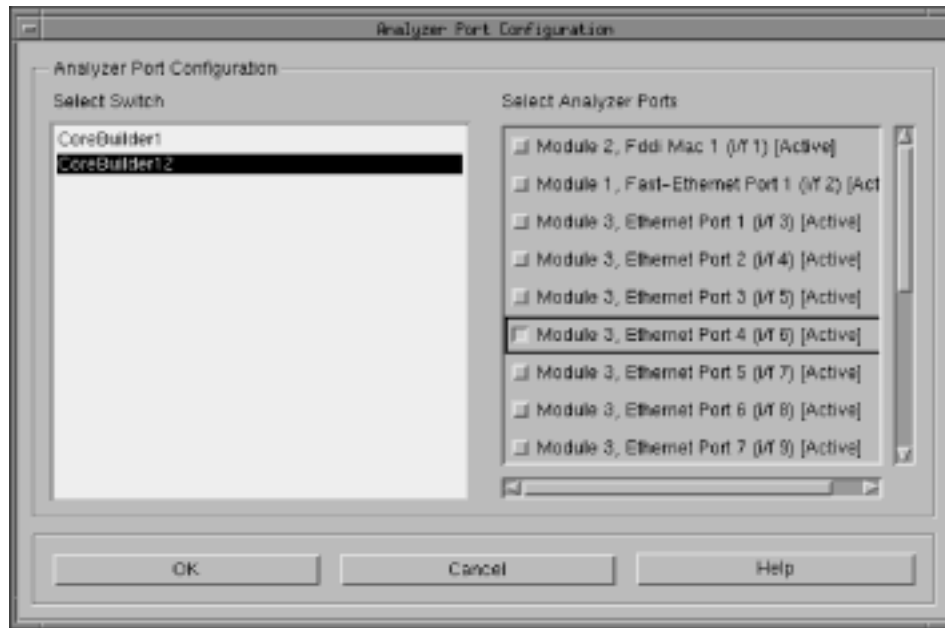

Figure 68. Analyzer Port Configuration Dialog Box
5. To change the current configuration of Analyzer ports on the selected switch or any other available switch, click **Configure Analyzer Ports**. The Analyzer Port Configuration dialog box is displayed, as shown in Figure 68 on page 162.